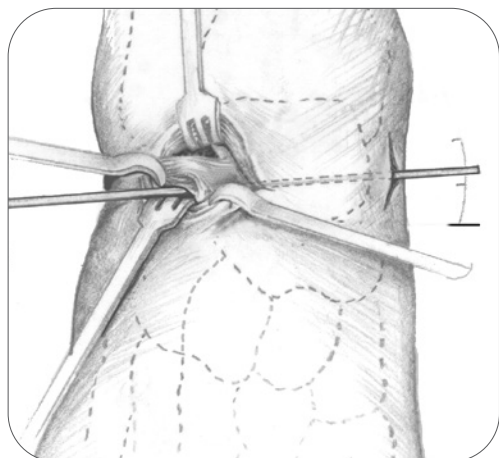

Figure 9-1
**9-1** Remove the guide pin medially if the small incision was made during Step 3 of the procedure (**Figure 9-1**).